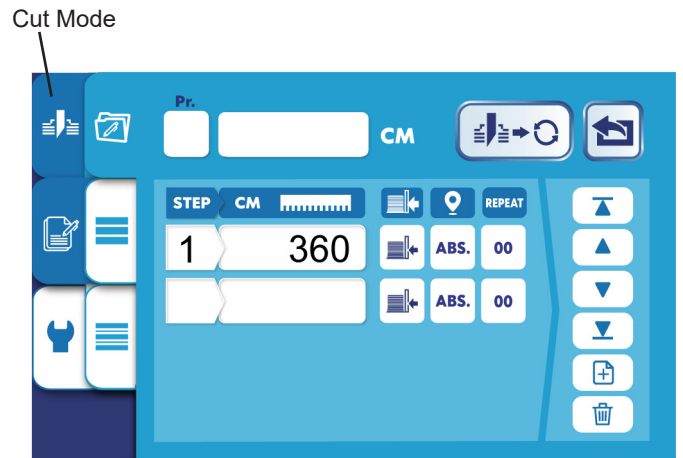

Fig. 7
8. To exit Edit mode and return to Cut mode, press the Cut Mode icon (Fig. 7).